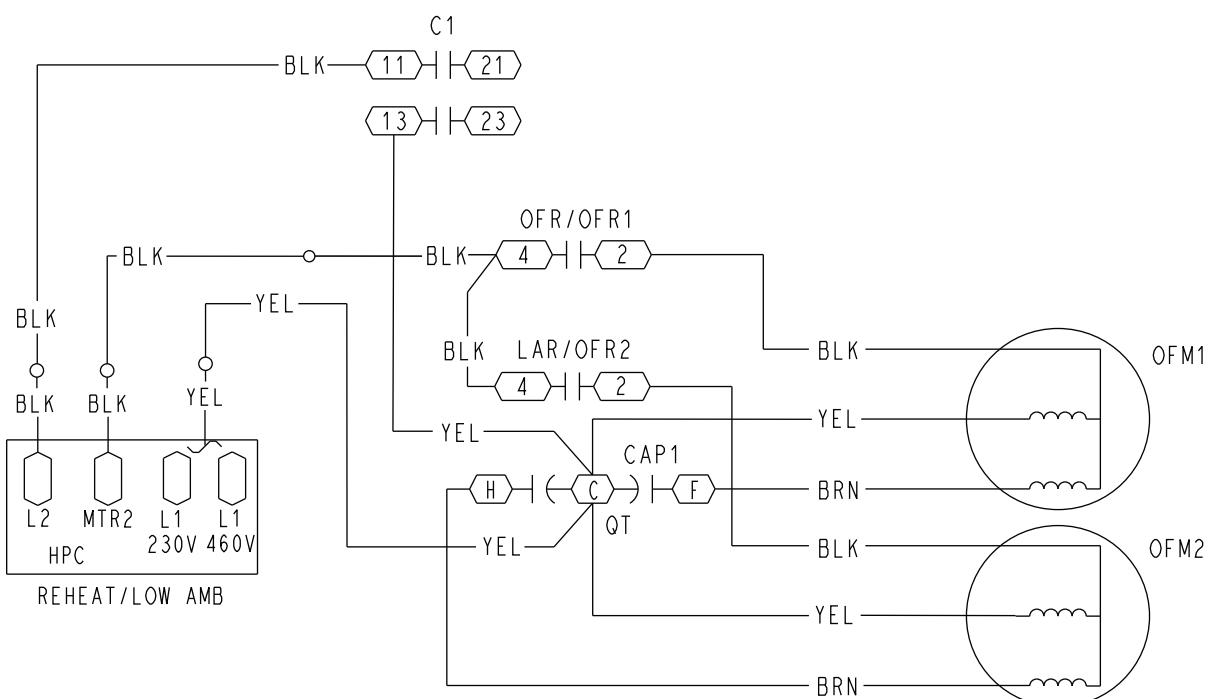

Fig. 4 — Cabinet A — High Voltage Wiring Diagram (208/230-v and 460-v)
- d. Attach the yellow wire with heat shrink terminal to the capacitor (CAP1) as shown in Fig. 4.